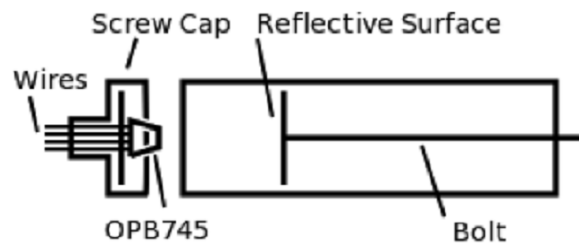

Figure 1: Example Test Environment
- A. Design and build a test environment for the OPB745 that will isolate the sensor from external lighting and will allow you to accurately adjust the distance between a reflective surface and the OPB745's sensor head. An example housing is described in Figure 1: Example Test Environment. The key characteristics of the test environment are: